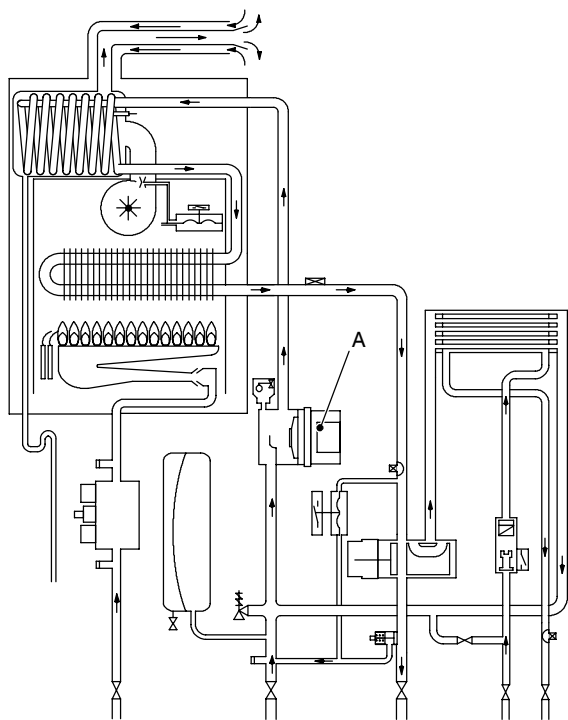
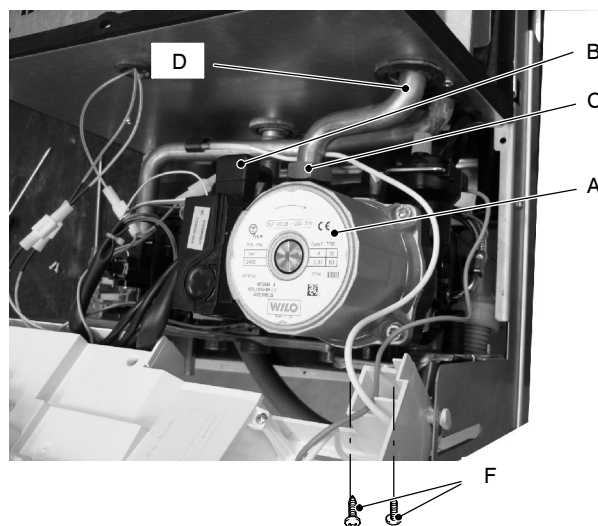

Fig. 18
Fig. 19
The pump A in Fig. 18 and Fig. 19 has the function of making the water in the main circuit circulate through the main heat exchanger, the condensing heat exchanger and therefore through the c.h. system (during the c.h. function) or through the secondary heat exchanger (during the d.h.w. function).
With the boiler off, remove the front panel and disconnect the connector B (Fig. 19).
- 4 Disconnect the connector B (Fig. 19).